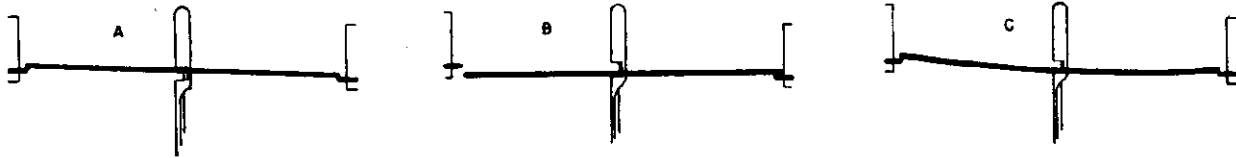

Figure 2
Place Records on Posts (see figures 2 and 3).	Records rest on support shelves (78) in position to be separated.